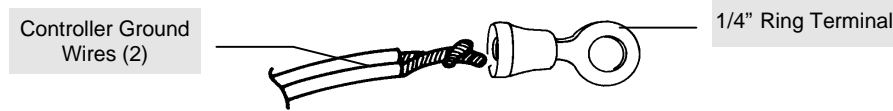

Figure 4 Installing Ring terminal on ground wires
4. Install both ground wires in a single, 1/4" ring terminal and crimp the terminal on the wires (see figure 4).